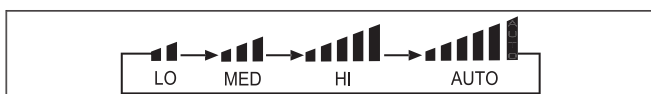

Fig. 7.17 Fan speed
- Press the FAN button to select the fan speed. Each time the FAN button is pressed, the fan speed will be modified as shown in Figure 7.17.